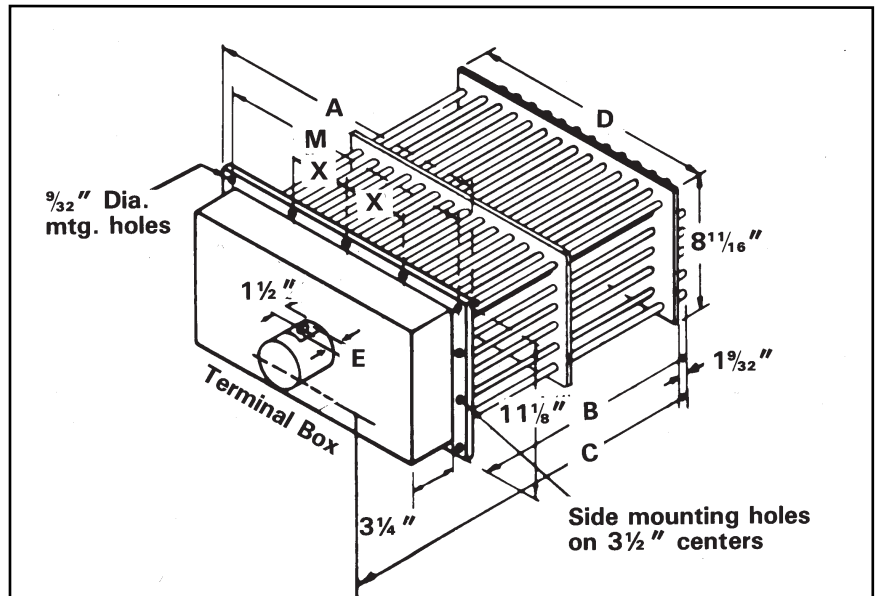

Figure 2
- Refer to Figure 2, layout D and 8-11/16" dimensions on duct mounting face established in step 1. The minimum duct size required is A or 11-1/8" dimension plus 3/8" and B dimension plus 1-5/8".